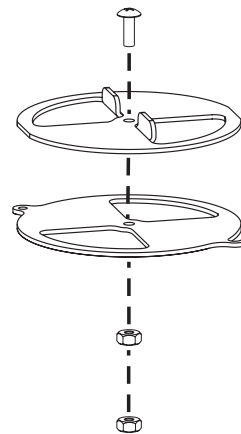

Figure 6
1. Attach the vent base and vent top with one 1/4-20 x 3/4 truss head screw and two 1/4-20 hex nuts. Hand tighten first nut against vent base. Tighten second nut against the first (as a jamb nut) using a 7/16 wrench. See Figure 6.